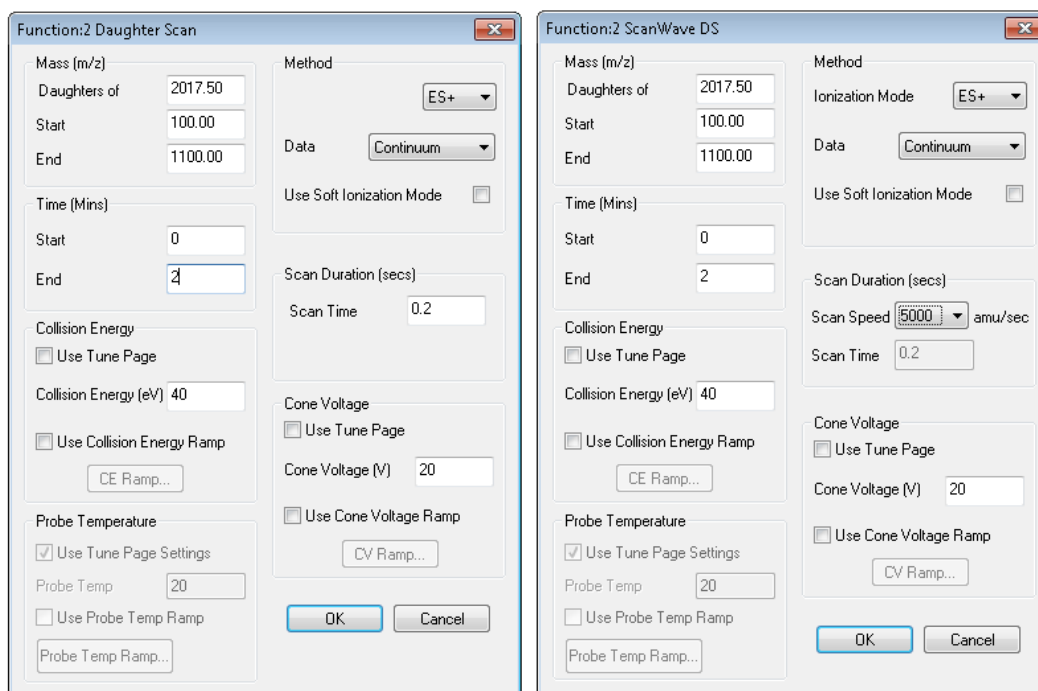

Figure 46 - Daughter scan parameters (left) and ScanWave DS parameters (right)
7. Create two experimental methods, one with a single daughter scan and the other with a single ScanWave DS, using the parameters in Figure 46.